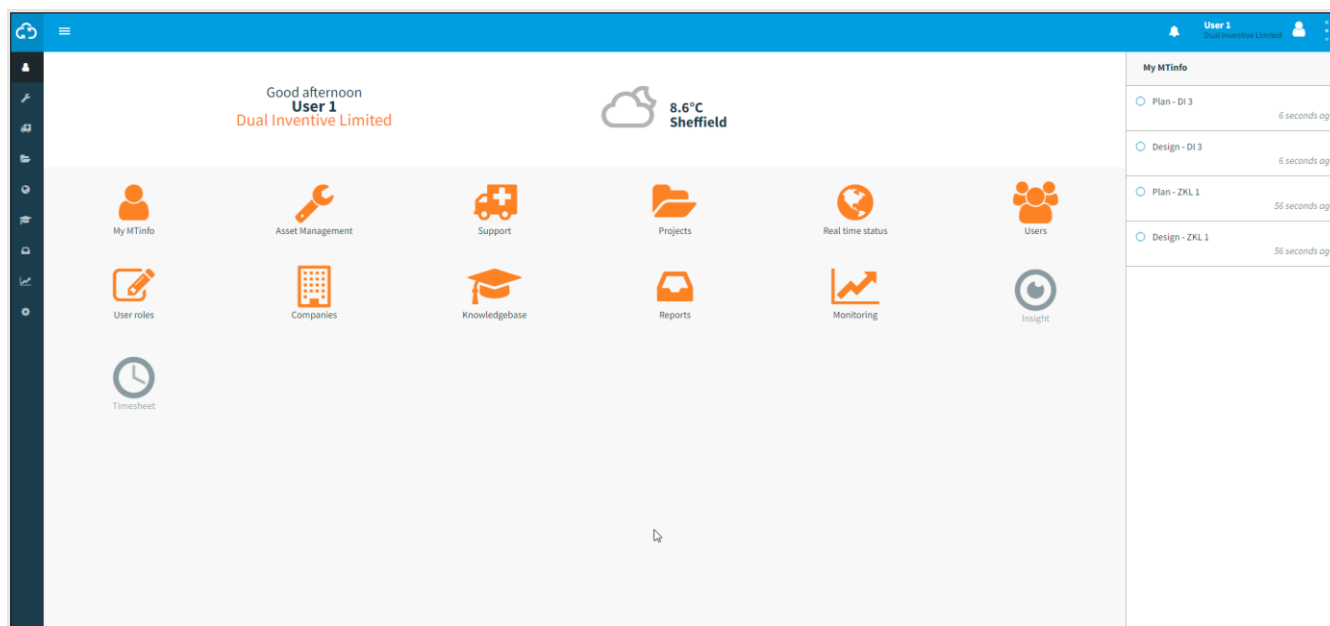

Figure 11 Dashboard
1. Go to the Dashboard (Figure 11) and click Companies.